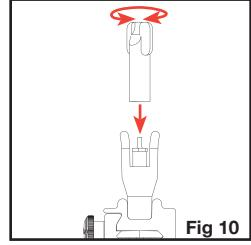

Fig 10
- The front sight is adjustable for elevation. Use the tool supplied in the storage magazine to adjust the front sight up or down by turning clockwise or counter clockwise. (Fig 10)